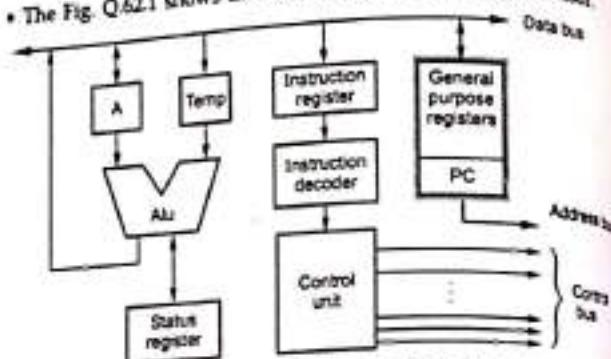

Fig. Q.62.1 Simplified block diagram of a microprocessor
- The Fig. Q.62.1 shows the block diagram of a microprocessor.